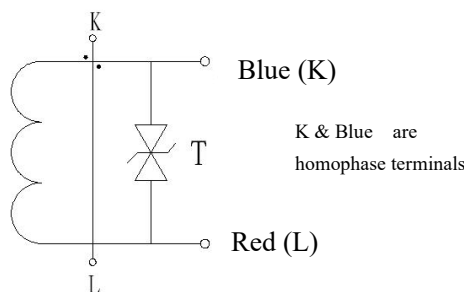

Fig 2
② The coil diagram is shown in Figure 2: